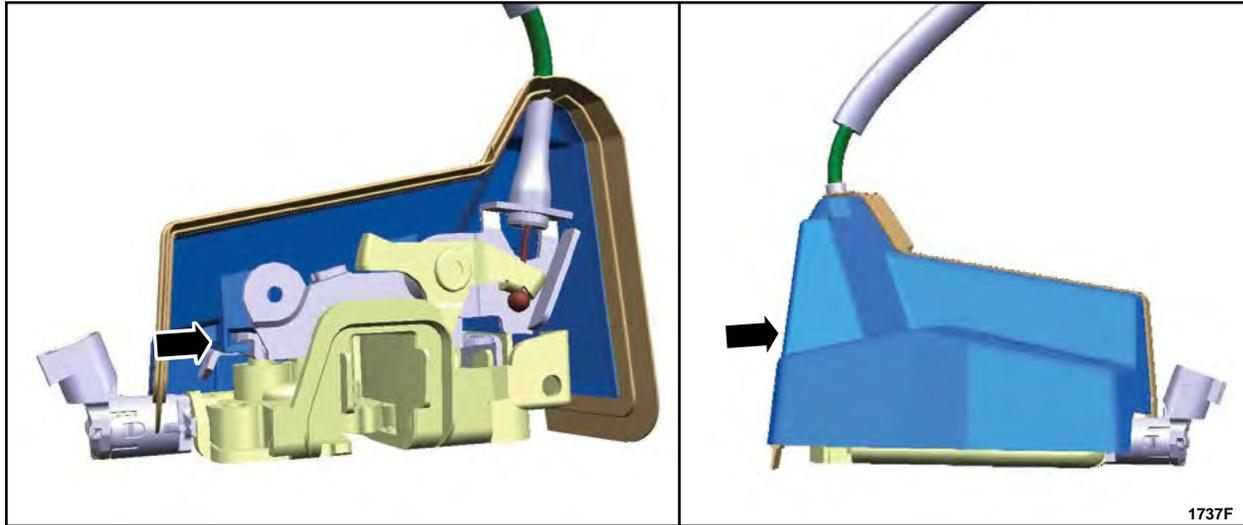

FIGURE 105
NOTE: If the vehicle has previously had a rear lower door latch replaced, it may already have the latest level door latch water shield installed. If the Super Cab rear lower door latch has a large water shield installed as shown in Figure 105, then installation of a *new* water shield is not required.
8. Install a *new* door latch water shield onto the lower rear door latch. See Figure 105.